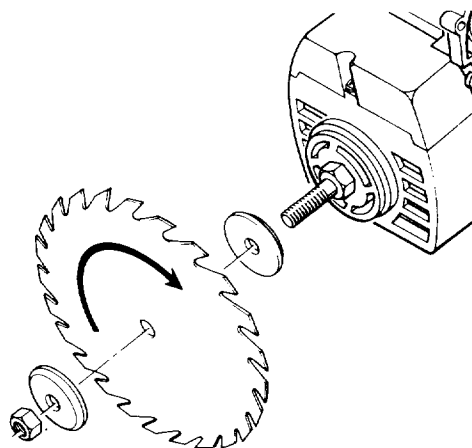

Fig. 71A
2. Place the *blade* on the *arbor shaft* with a *blade collar* on each side. Make sure that the directional arrow is on the outside of the *blade*, and the teeth are pointing down at the front side of the blade. (Figure 71A)